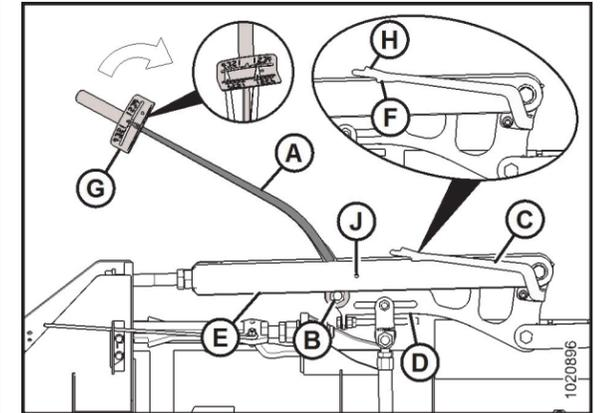

Figure 8: Wing Balance Linkage, Wings Set too Light – Left Side, Right Opposite
- Place torque wrench (A) on bolt (B).
- Check that pointer (C) is properly positioned as follows:
- Use the torque wrench (A) to move the bell crank so that the bell crank's lower edge (D) is parallel to the top-link's lower edge (E).
- Ensure pointer (C) is lined up with the top-link (E). If necessary, bend the pointer it aligns with bolt hole (J).
- Move wing upward with torque wrench (A) until the pointer's lower alignment tab (F) lines up with the upper edge of the top-link (E). Refer to Figure 8. Observe the indicator reading (G) on the torque wrench and record it.